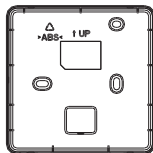

Fig.2
3. As shown in Fig.2, fix the wire controller to the wall with three screws through the three oval holes on the back cover of the wire controller. (Prepare three screws which are readily available in the market)